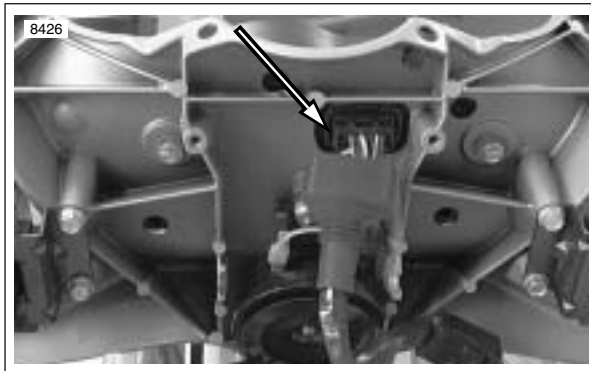
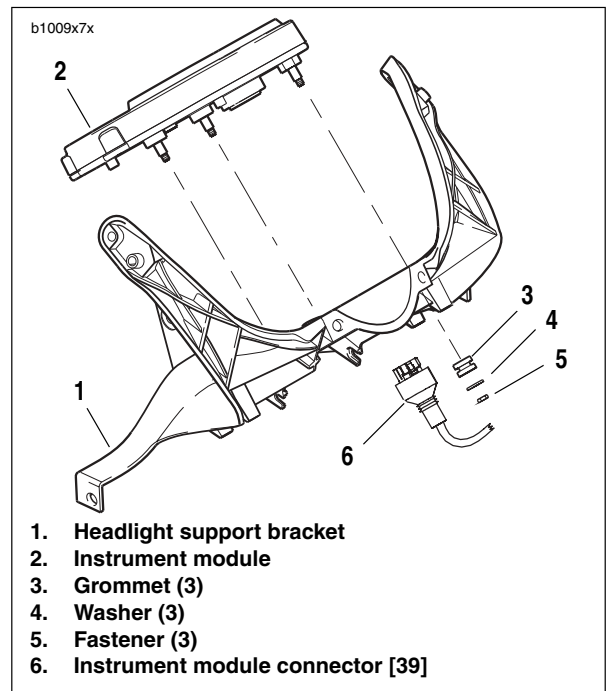

Figure 7-64. Instrument Module Connector [39]
Figure 7-65. Instrument Module
4. See Figure 7-64. Disconnect instrument module connector [39].
5. See Figure 7-65. Remove fasteners (5) and washers (4).
6. Pull instrument module (2) from headlight support bracket (1).
1. See Figure 7-65. Place instrument module (2) into position in headlight support bracket (1).
2. Install washers (4) and fasteners (5). Tighten fasteners to 12-36 **in-lbs** (1.4-4.0 Nm).
3. See Figure 7-64. Connect instrument module connector [39].